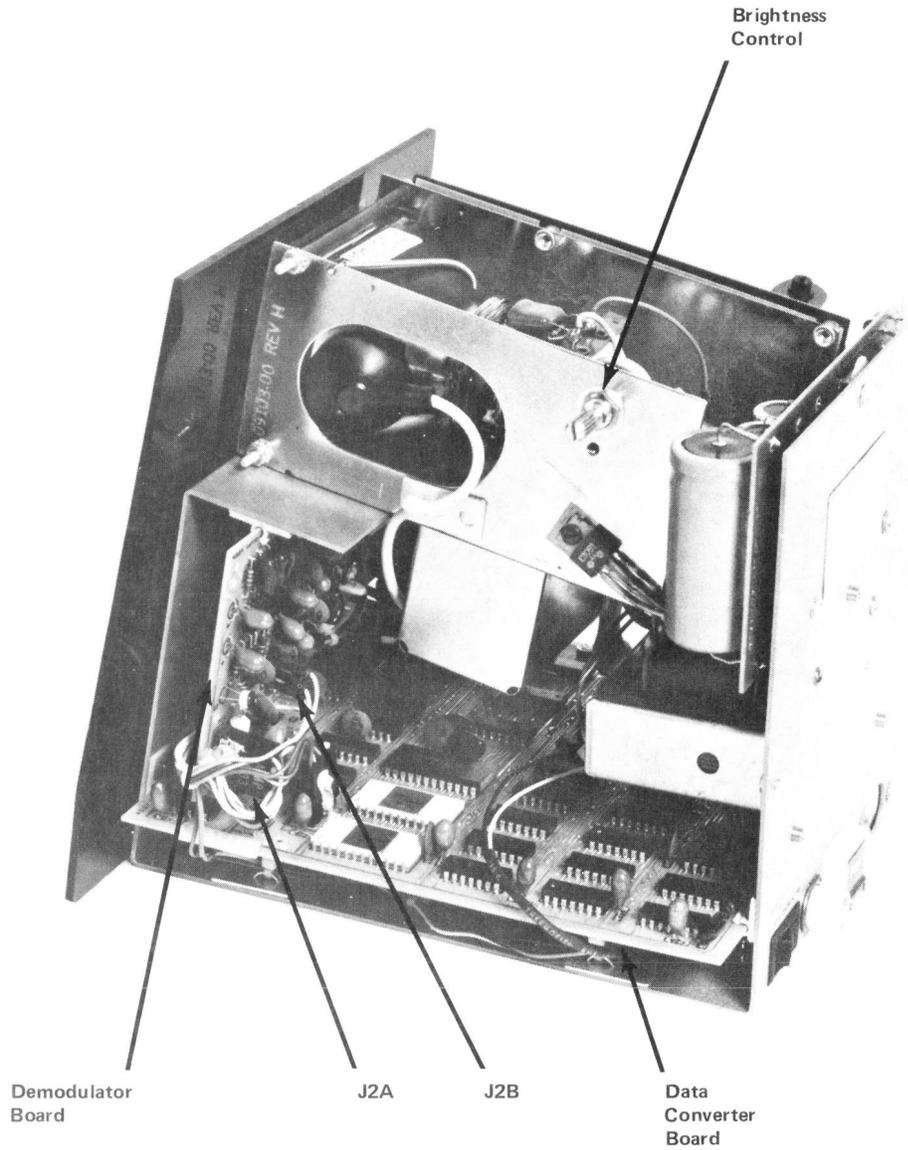

Figure 24, Right Side of Chassis
Video Brightness Control (Figure 24)
- n) If data is now correct, the original regulator board has malfunctioned. Replace regulator board. Adjust brightness and contrast control if necessary. (See Figures 24 and 25). Retest terminal per section 4.04.